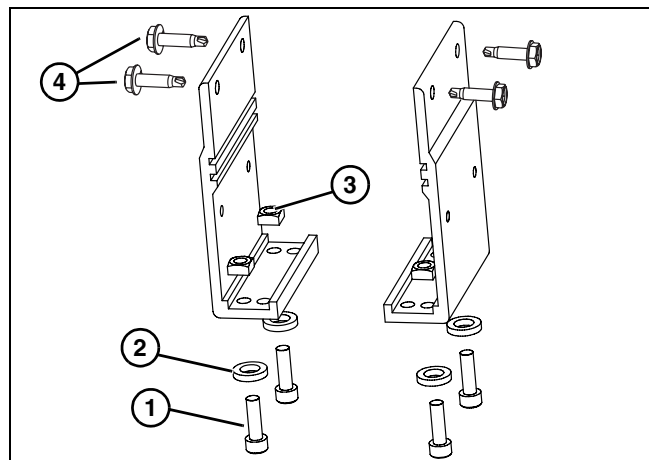
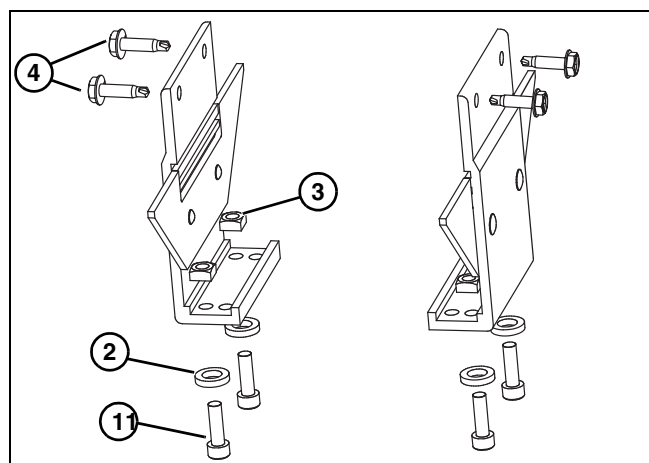

Figure 9
Figure 10
1. Locate brackets. Exploded views shown in Figure 9 for flat belt & Figure 10 for a cleated belt.
2. Remove screws (**Figure 9, item 1**) or (**Figure 10, item 1**), washers (**Figure 9, item 2**) or (**Figure 10, item 2**), nuts (**Figure 9, item 3**) or (**Figure 10, item 3**) from brackets.
3. Locate and retain self-drilling screws (**Figure 9, item 4**) or (**Figure 10, item 4**).